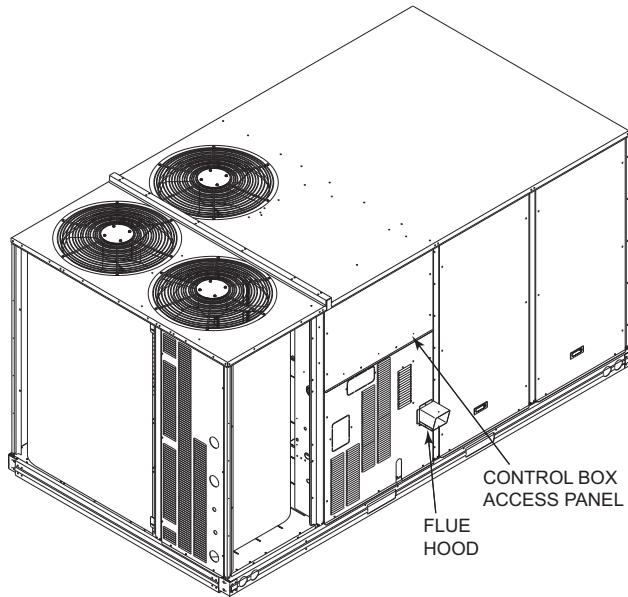

Fig. 16 — Flue Hood Details
Step 9 — Install Flue Hood — The flue hood is shipped screwed to the basepan beside the burner compartment access panel. Remove the panel below the control box access panel to access the flue hood shipping location. Using screws provided, install flue hood and screen in location shown in Fig. 16.